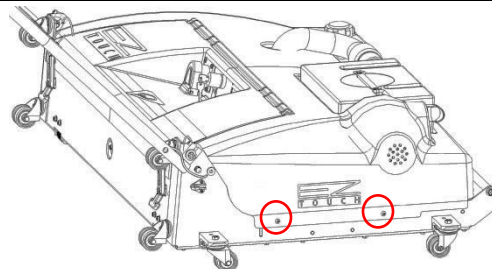

Figure 4- 25
1. Unlatch the oil compartment door latches, disconnect the vacuum hose and remove the waste tank and cleaner tank cap. Then remove the two screws from each side of the hood as shown in Figure 4- 266, and lift the hood from the frame. Set the screws aside.
2. Loosen the two bolts, shown in Figure 4- 277, securing the waste tank guard and vacuum motor bracket in place. Only loosen the bolts enough to allow the vacuum motor bracket to move.